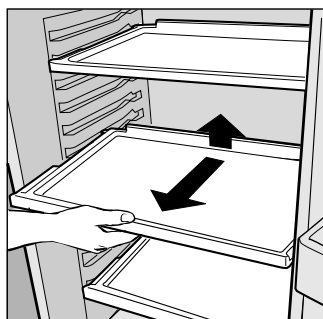

Fig. 1
- The refrigerator compartment is equipped with convenient, removable shelves (Fig. 1) which can be adjusted for height using the shelf guides. This allows you to place even large items in the refrigerator.